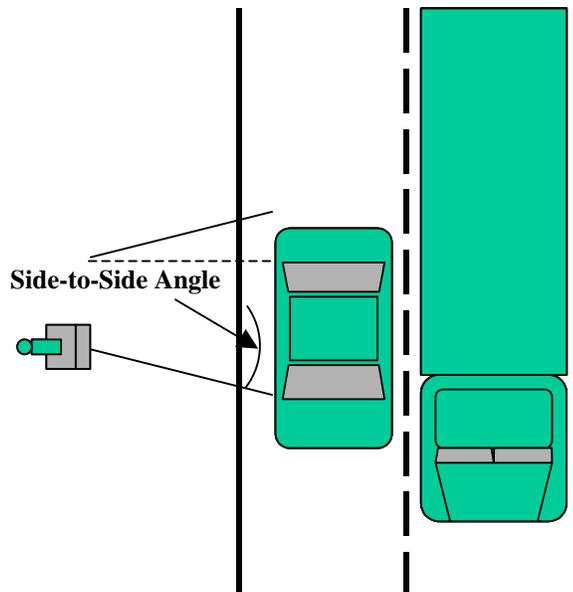

Figure 4 – Side-to-side positioning
4. Adjust the side-to-side angle as close to perpendicular to the flow of traffic as possible (see Figure 4). Later in the installation process, this will be fine-tuned for accurate speeds.